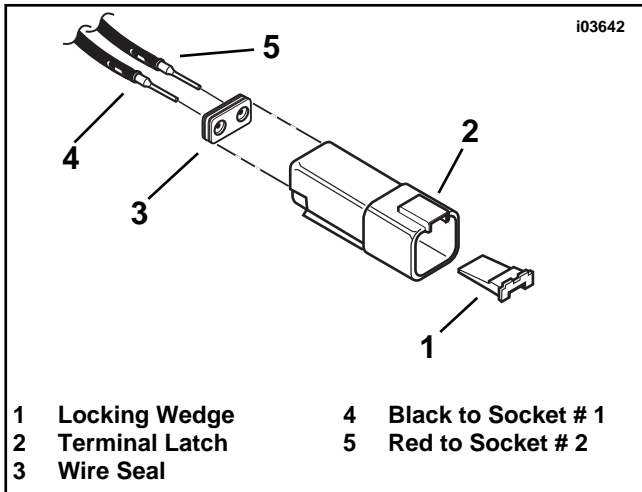

Figure 23. Install 2-Pin ON/OFF Switch Connector
- 1. See Service Parts Illustration. Obtain the 2-Place Receptacle (9) and Wedge Lock (12) from kit.
- 3. See Figure 23. Remove the rubber wire seal from the connector.